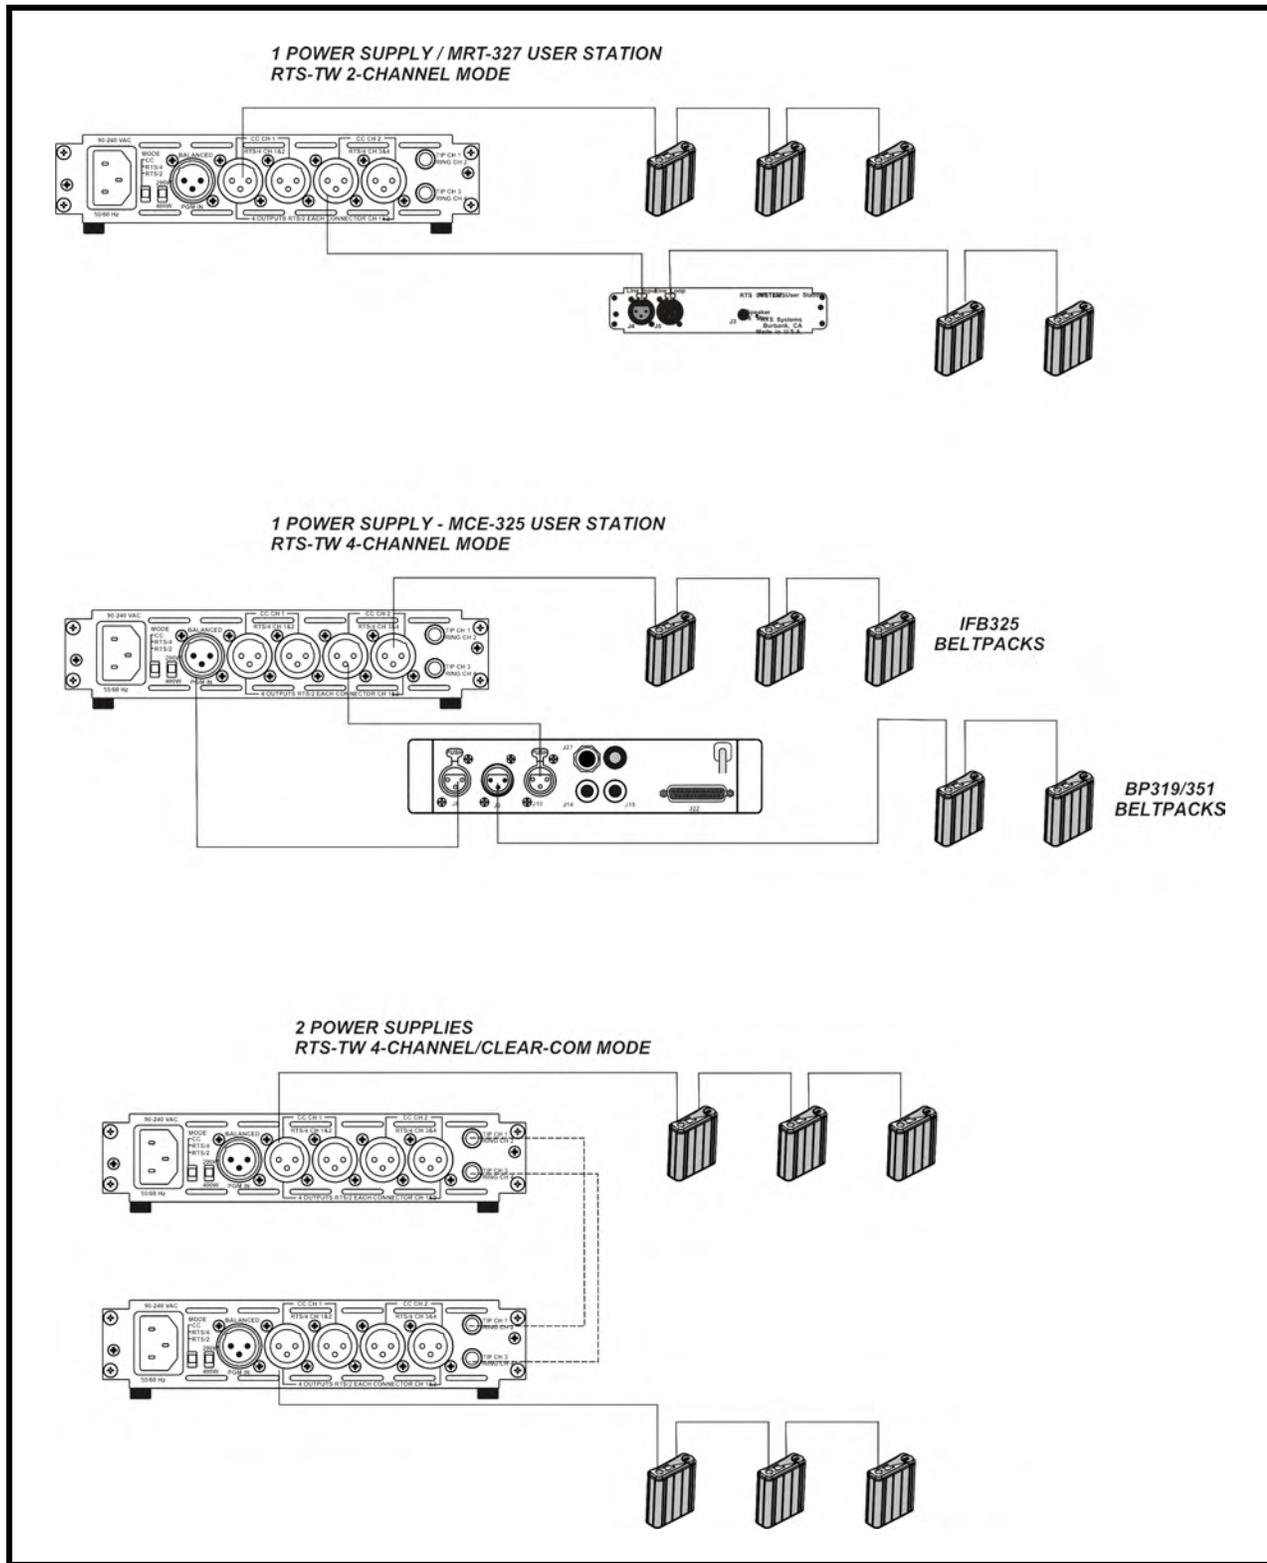

FIGURE 8. Configuration Diagrams
Connect intercom channels to the output connectors on the rear panel, see Figure 8, "Configuration Diagrams," on page 14
4. Using Figure 8 on page 14, configure the external devices you want to use with the PS-20 unit.